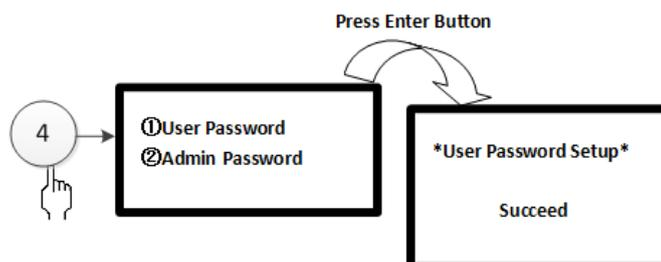

Fig. 3-22
④ Password Setup
Enter the screen as shown in Fig. 3-22 by pressing number 4 or moving cursor to select ④. The next step can not be taken until administrator authority is accessed. Administrator password can be used instead of user password and to modify user password.